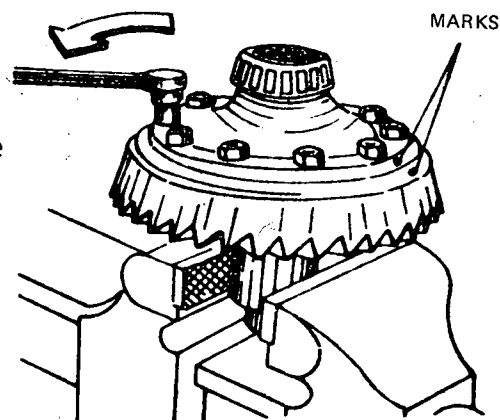

Fig. 1
- c) Remove the bolts from the ring gear (Fig. 1). Release the tension from the bolts in a gradual and alternate manner.